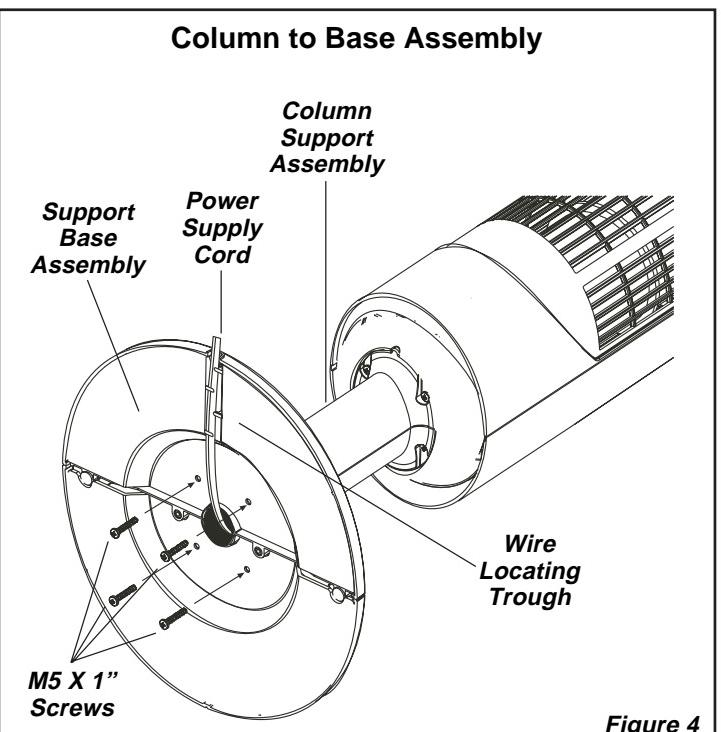

Figure 4
6. Align the **Support Base Assembly** with the **Column Support Assembly**, noting that the cord channel on the bottom of the support base should be towards the back of the Fan. Assemble the **Support Base Assembly** to the **Column Support Assembly** with **(4) 1" Long M5 Screws**. Gently pull any excess slack of the **Power Supply Cord** and place it in the **Wire Locating Trough**. (Figure 4)